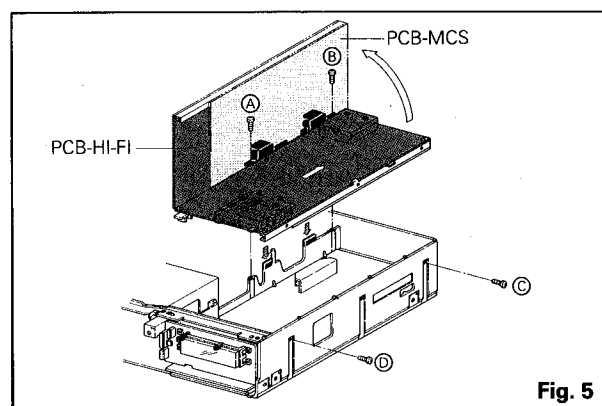

Fig. 5
- Remove the four screws (A, B, C, and D) retaining the PCB-HI-FI as shown in Fig. 5.
- Mount the HI-FI circuit board vertically, as shown in Fig. 5.